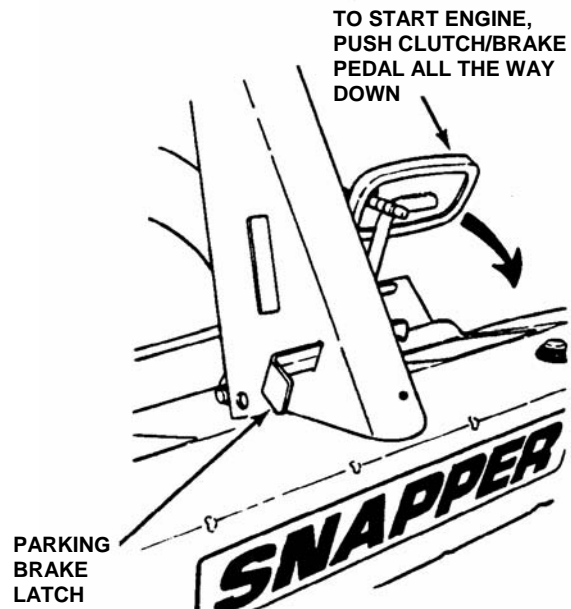

FIGURE 2.5
IMPORTANT: When the ignition key is turned to "START", the engine will turn over, but will not start unless the Clutch/Brake pedal is pressed all the way down, the Blade Lever is in the "OFF" position (See Figure 2.5). The operator should be in the seat. Start engine as follows:
3. Press Clutch/Brake Pedal all the way down and hold while starting engine. See Figure 2.5.